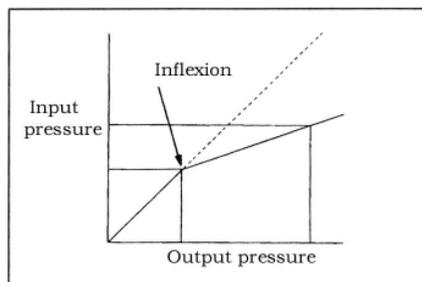

Fig. 16-12
(2) Bleed the brake line and the pressure gauges.
(3) Depress the brake pedal gradually. Then check that the split point, where the output fluid pressure begins to drop in proportion to the output fluid pressure, is at the standard value. (see Fig.16-12)。